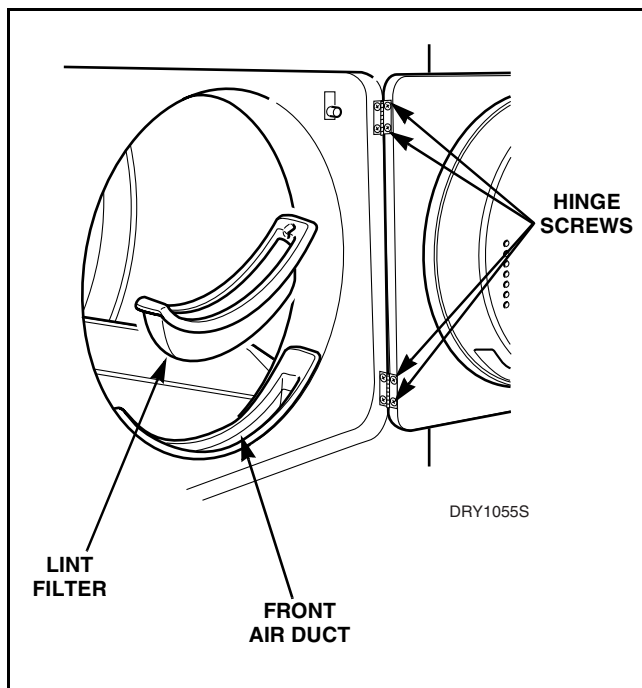

Figure 10
Refer to *Figure 10*
Remove four screws holding hinges to door. Refer to *Figure 10*.
- Remove four screws holding hinges to door. Refer to *Figure 10*.
- a. Open loading door and remove four screws holding door assembly to hinges. Refer to *Figure 10*.